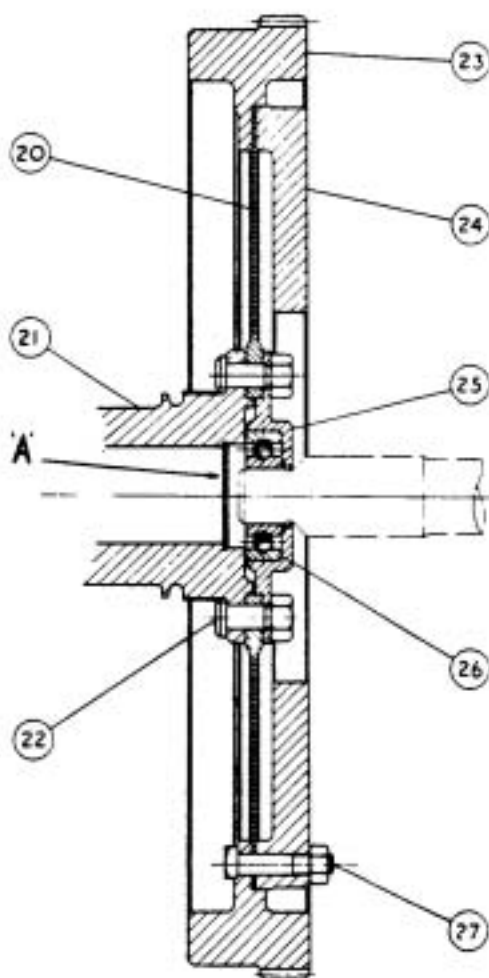

Fig.2. Section through flywheel.
1. Oil leakage past the sealing washer 'A' Fig.2 at the rear end of the crankshaft.
2. Excessive initial loading of grease into the clutch spigot ball bearing (26 Fig.2) of the flywheel, distinguished by radial grease marks on the friction plate (24).
It has been found on investigation, that under certain conditions there is a possibility of an oil leakage past the sealing washer ('A' Fig.2) at the rear end of the crankshaft. If the leakage is sufficient, oil may reach the front facing of the driven plate. In practice, it is likely that the first indication will be a clutch shudder and then a slipping clutch. If after removal of the clutch, oil, apart from grease, is found to be present in the spigot bearing (26 Fig.2), it can be assumed that it is leaking past the sealing washer.
Whenever there is evidence of oil leakage past the sealing washer, a rubber plug should be fitted as described herein. If however, a rubber plug is not immediately available, then it will be necessary to solder the sealing washer ('A' Fig.2) to the crankshaft as described in Paragraph 1b.
With the clutch removed from the flywheel, remove the crankcase lower half, taking care to try and avoid damaging the Vellumoid joint fitted between the face of the crankcase and the wheelcase. Before fitting the rubber plug, it will be necessary to drill a $\frac{1}{16}$ " dia. (1.6 mm) air escape hole in the centre of the existing sealing washer. Prior to drilling, and to prevent any drilling swarf from dropping into the spigot bearing (26 Fig. 2), cut a piece of paper about $1\frac{1}{2}$ " (38 mm) wide, grease it on one side and then fold it in cylindrical form so that the greased side is on the interior, pass it through the spigot bearing and up to the face of the sealing washer. After drilling the washer, remove burrs from hole and then carefully remove the paper tube, together with all traces of swarf which will be found to be trapped on the greased side of the paper.
With the clutch removed from the flywheel, remove the crankcase lower half. Remove the nuts from the twelve bolts (22 Fig.2). Providing the nuts have not been over centre punched, it should be possible to use them again. Leaving the flywheel assembly in position on the crankshaft, remove the bearing housing (25) complete with the spigot bearing (26). Remove any surplus oil or grease from the spigot bearing and housing and do not add any additional oil or grease.
If too much grease has been packed into the clutch spigot ball bearings (26 Fig.2) in the flywheel, then it may eventually find its way on to the friction plate (24) of the flywheel with consequent contamination of the front facing of the driven plate. Remove all traces of grease, oil or foreign matter from the flywheel, friction plate and clutch casing. There should not be a repetition of this trouble, as any excess of grease in the spigot bearing will have found its way out. There is no need to remove the spigot bearing for cleaning purposes.